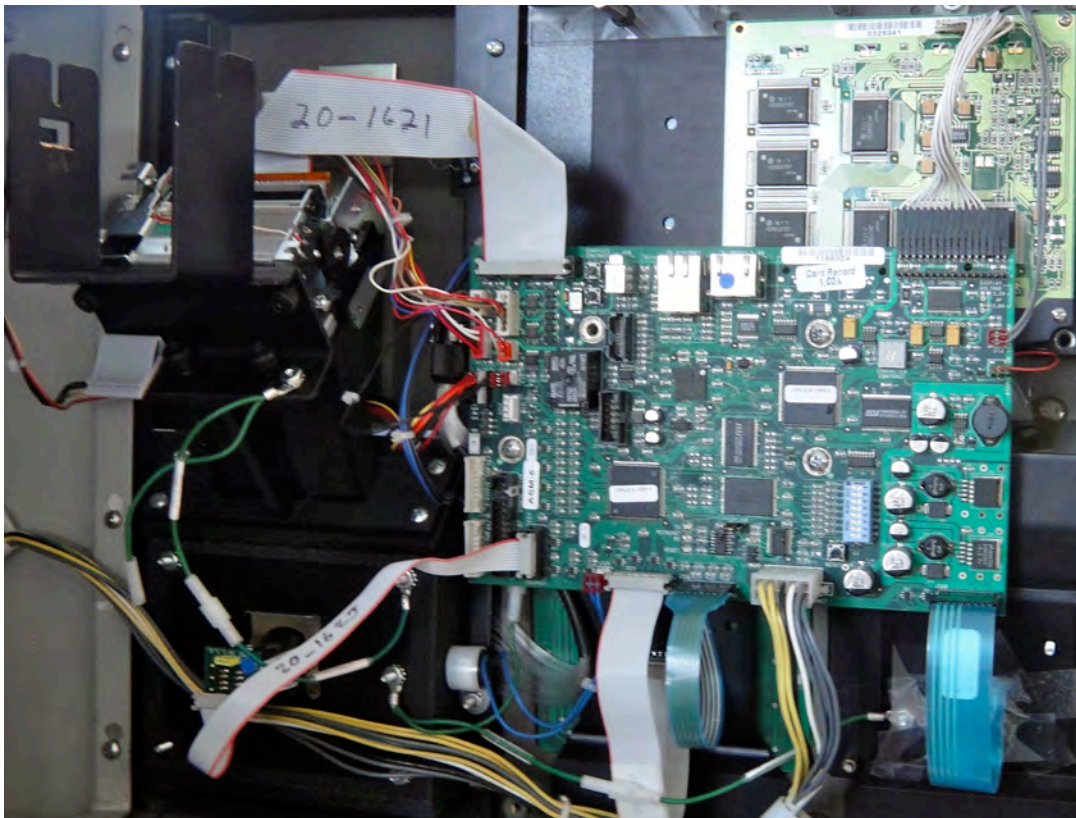

Figure 1: Cable Connections to (original) PV343 Board
Step 3. On the back of the door, you will see door electronics similar to the example shown in Figure 1. Your hardware may vary, depending on original options installed.